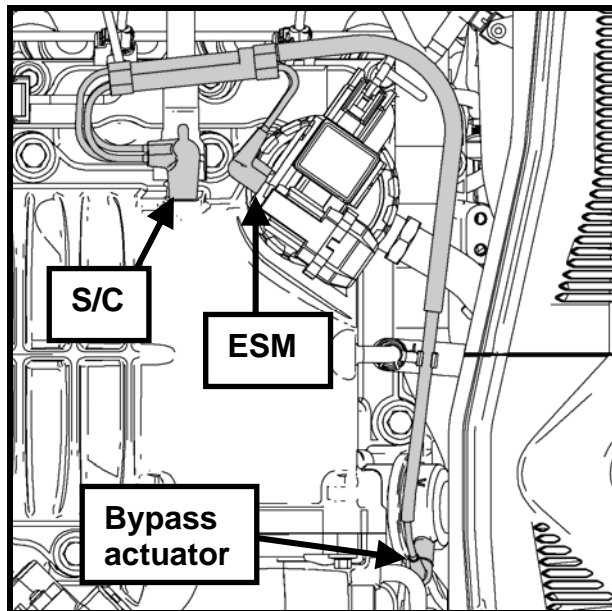

Fig. 3
STEP 5: Carefully label each port before removing the vacuum harness from the vehicle (i.e., supercharger housing, ESM and supercharger bypass actuator) (See Fig. 3).